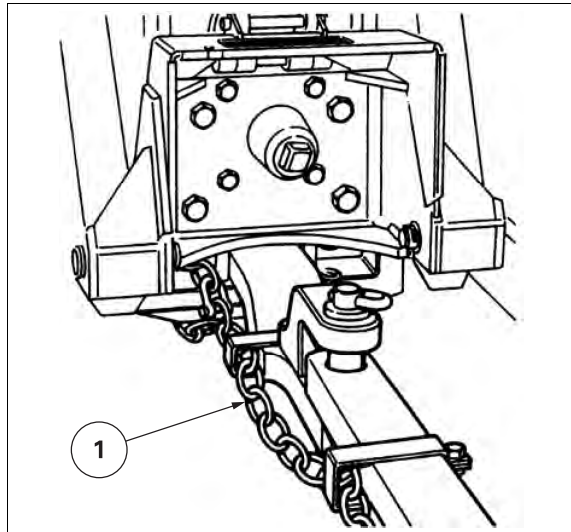
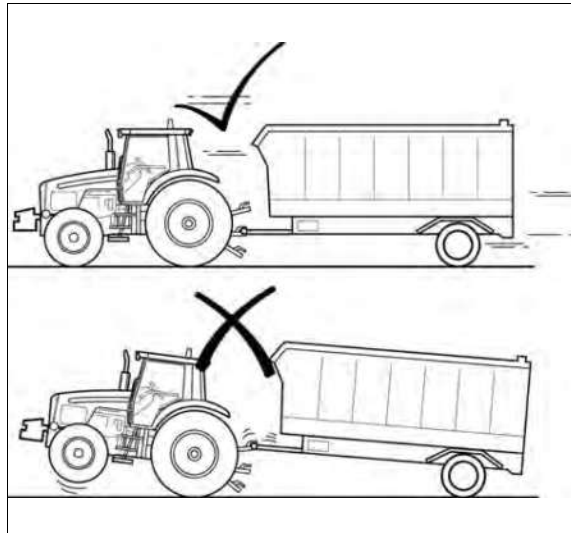

Fig. 9.
Fig. 10.
- All trailed implements and trailers should be connected to the tractor by a safety chain (1) *fig. 9.*
NOTE: To switch off this indicator light, go to the display menu of the Dash Control Center fig. 9 in advanced mode and press the button (15) of the menu access controls for 5 seconds fig. 10
- (4) General failure alert light (red).